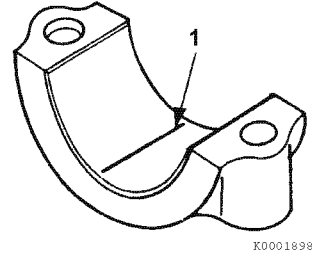

Figure 6-59
- 2- Place a piece of PLASTIGAGE (1, **Figure 6-59**) along the full width of each bearing insert.